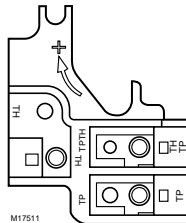

Fig. 9. Test points for troubleshooting the VS8510/VS8520 Millivolt Gas Valves.
2. With the main burner operating, check the gas control flow rate using the meter clamping method or measure the pressure by attaching a plastic tube with a 1/4 in. shell I.D. to the manometer and connecting the manometer to the outlet pressure tap on the gas control. See Fig. 9.
Use Fig. 9 and Table 2 or 3 to assist in troubleshooting the VS8510 or VS8520.